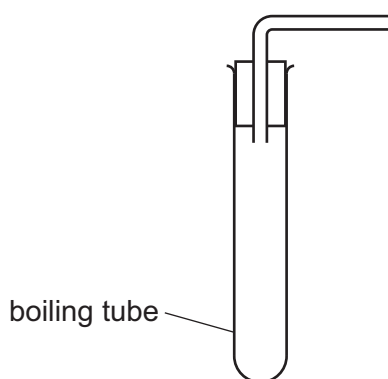

Fig. 1.3
- (iii) Complete Fig. 1.3 to show assembled apparatus suitable for collecting and measuring the volume of oxygen produced.